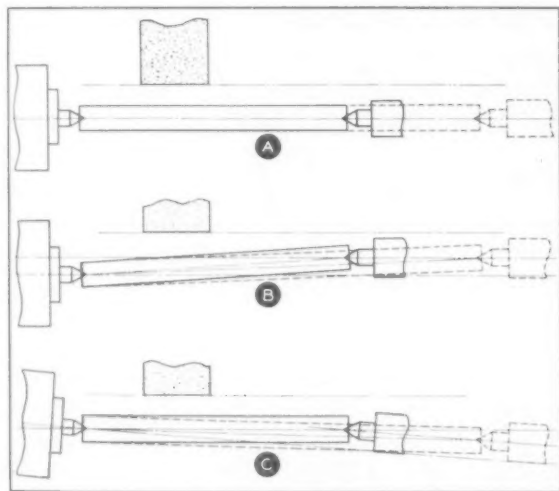

Fig. 3. Variation in work length affects accuracy, and, as shown here, the headstock and footstock must be aligned.
(4) Particularly important is the alignment of the headstock and footstock. These members were lined up with meticulous care. This alignment is a characteristic which must be taken into account when grinding to close tolerances of size and taper, because if there is misalignment in the headstock and footstock, the slightest variation in the work length destroys uniformity of size and taper. To illustrate this point, see Fig. 3 for the effect of machine alignment.